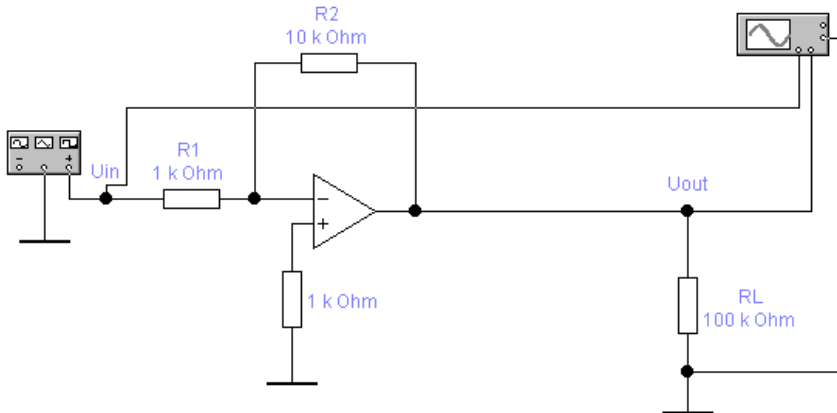

Figure 5.2 - Scheme of inverting amplifier
The gain of the circuit of the inverting amplifier on the Opamp (Fig. 5.2) is determined by the formula:
- 4 Draw a pattern of Fig. 5.2.